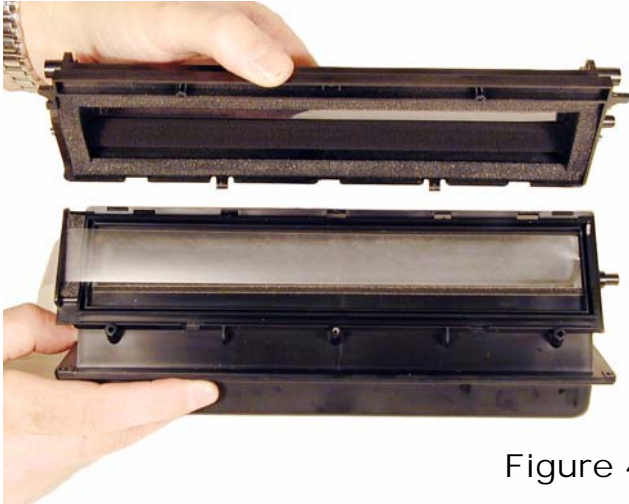

Figure 45
40) Slide the seal tab out the slot of the top cover. Set the three plastic tabs into their slots, and rotate the top cover down into place. Install the screw. Make sure the cover locks into place! Check the seam on the end of the hopper to be sure. See **Figures 45 & 46**